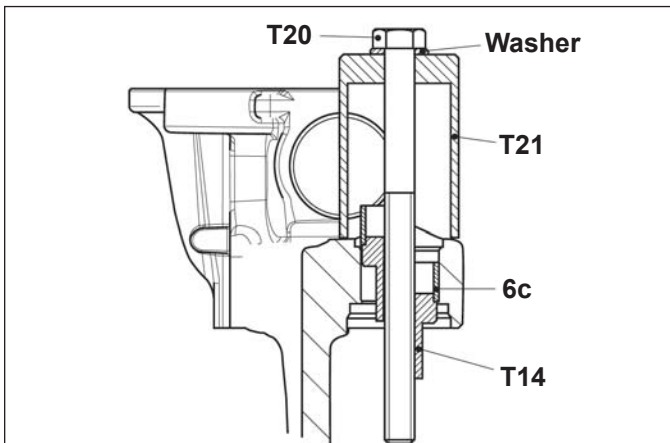

FIGURE 75 - SECTIONAL VIEW: SHORT GUIDE PIN BUSHING REMOVAL
5.6.15 Use the tool combination shown in Figure 75 (comprising T14, T20, T21, and a washer) to remove the bushing (1). Screw nut (T14) onto the assembly by hand, then tighten the bolt (T20) using a box end wrench to draw out the bushing. Discard the removed bushing, and verify that the bore is clean by wiping with a shop cloth.